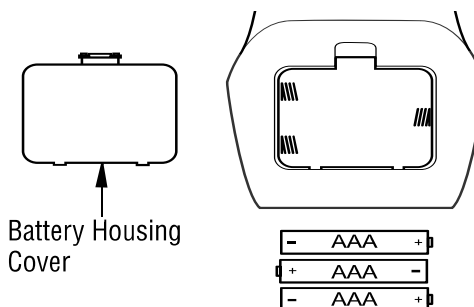

Figure 20 - Battery Install Hand-Held Remote Control
1. Remove battery housing cover from back of hand-held remote (see **Figure 20**).